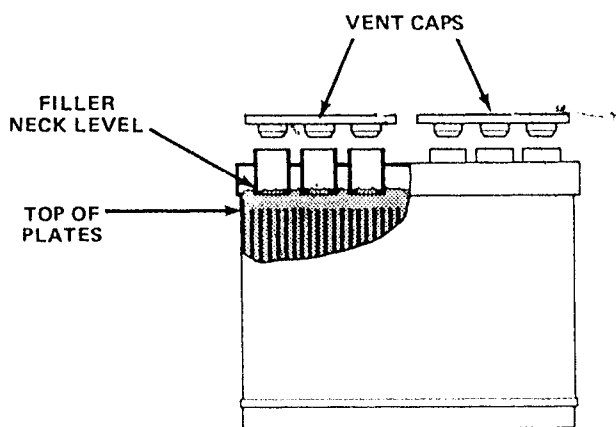

Figure 43
5. Remove vent caps from battery (Fig. 43). Next, check level of electrolyte in each cell. Add drinking water to the battery if electrolyte is not up to the ring at bottom of filler neck (Fig. 43). **ADD WATER ONLY AFTER CHARGING THE BATTERY.** Install vent caps (Fig. 43).